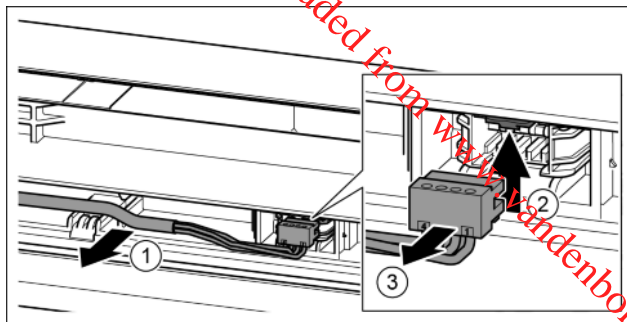

Fig. 20
- Carefully remove the grey cable from the guide in the door. *Fig. 20 (1)*
- Press the lug upwards. *Fig. 20 (2)*
- Carefully remove the connector. *Fig. 20 (3)*